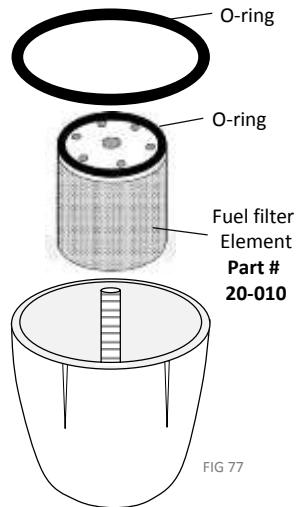

FIG 77
*See page 48, fig 77 for fuel filter element replacement*